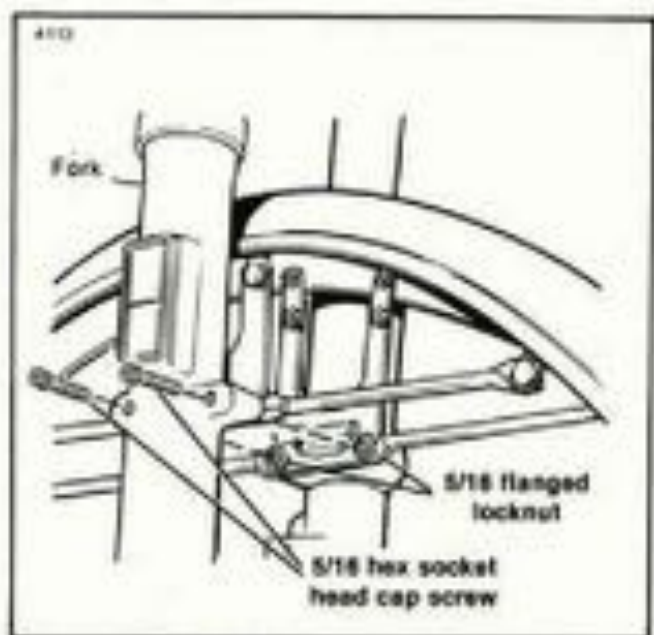

Figure 2-124. Front Fender Removal
2. See Figure 2-124. Remove the four flanged locknuts at the inboard side of the fender brace. Remove the four socket head cap screws.